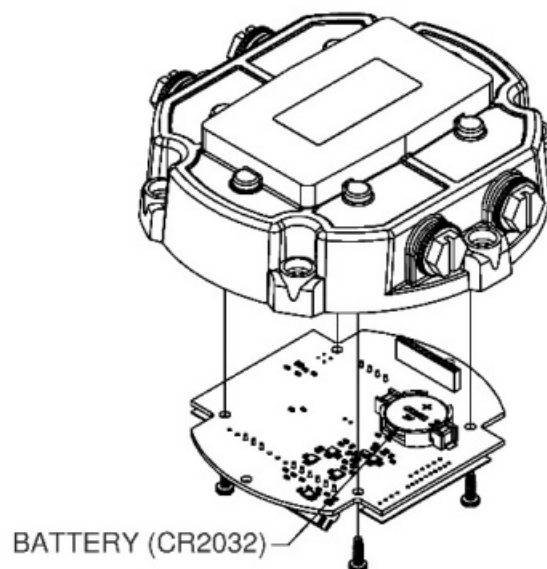

Figure 14
- Remove and replace the coin cell battery (CR2032) on the backside of PC board (see Figure 14).
- Reverse the procedure to reassemble the cover plate to the meter. Make sure the cover plate seal is seated before tightening the (6) cover plate screws.